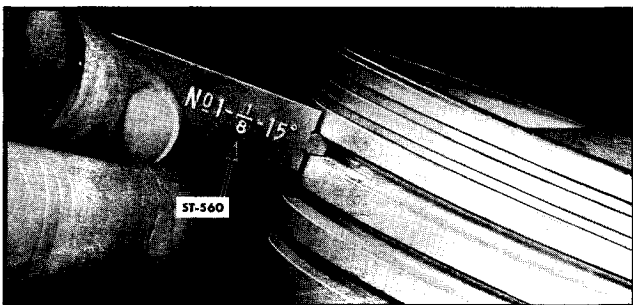

Fig. 2-31. Checking ring groove wear
- a. Shoulders of gauge *must not* touch ring groove lands if piston is to be reused. See Fig. 2-31.